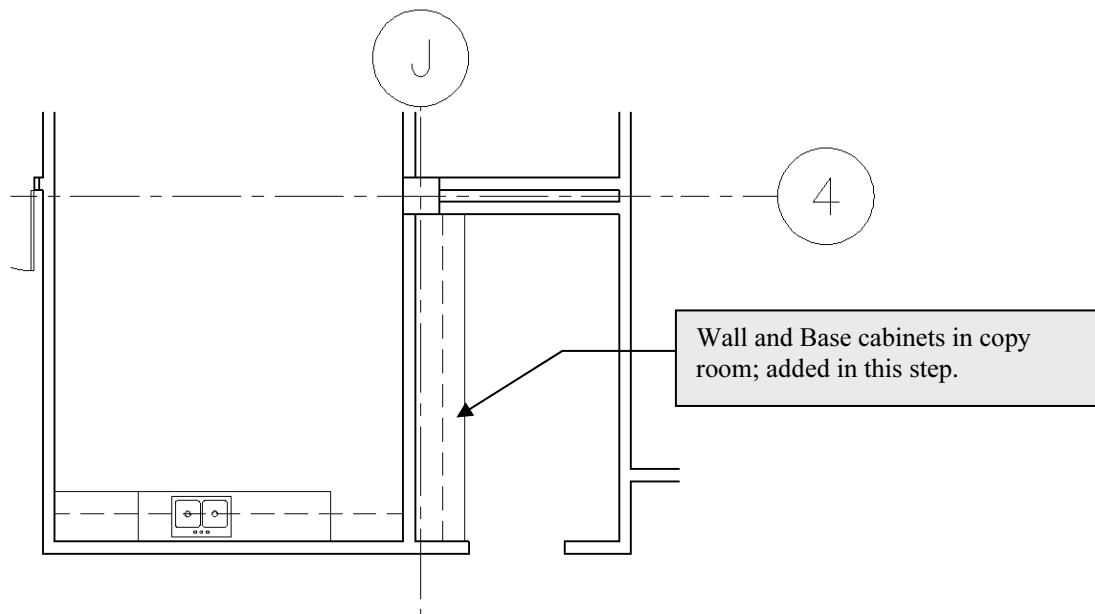

Figure 4-2.3 Drawing the copy room casework
4. Draw the cabinets shown in Figure 4-2.3, *plus*: